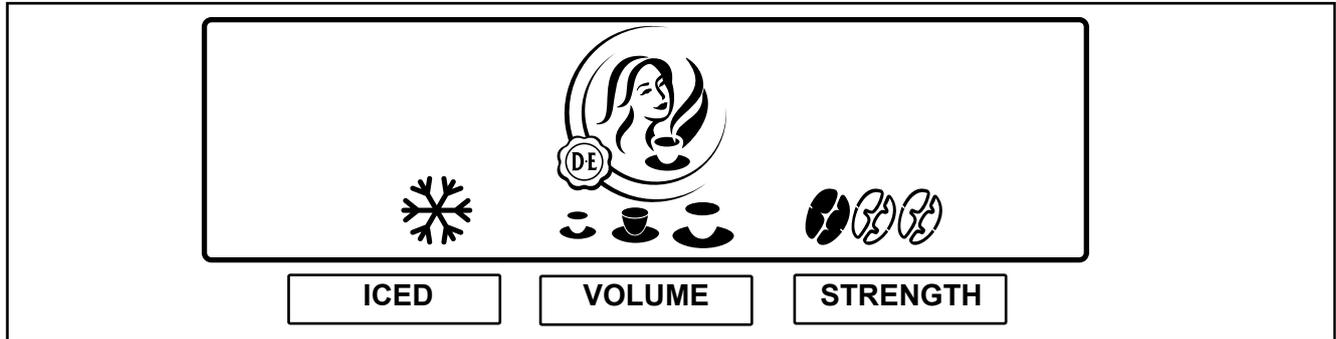

Fig. 15
Your dispenser supports preselection options. The service technician may have activated these preselection options during installation. When the preselection button is pressed, the following preselection options are displayed on the display (fig. 15):
2. Press the preselection button «ICED» to activate this preselection. The icon for iced is displayed (fig. 15).
2. Press the preselection button «VOLUME» to activate this preselection. Three cup icons (small - medium - large) are displayed (fig. 15).